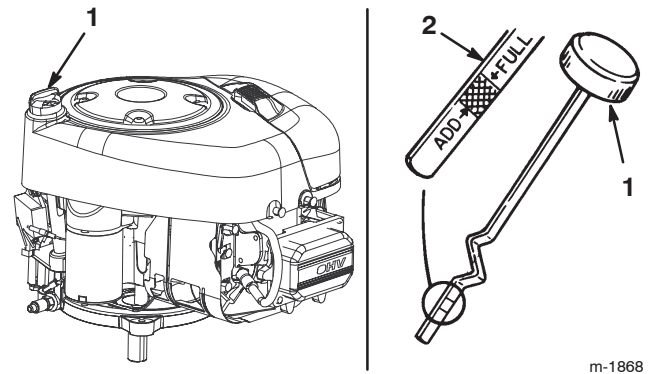

Figure 17
7. Clean around the oil dipstick (Fig. 17) so that dirt cannot fall into the fill tube and damage the engine.
8. Unscrew the oil dipstick and wipe the metal end clean (Fig. 17).
9. Screw the oil dipstick fully onto the fill tube (Fig. 17). Unscrew the dipstick again and look at the metal end. If the oil level is low, slowly pour only enough oil into the fill tube to raise the level to the Full mark on the dipstick.
12. Slowly pour approximately 80% of the specified amount of oil into the fill tube (Fig. 17). Check the oil level; refer to steps 4 and 5 of Checking the Oil Level on page 21.